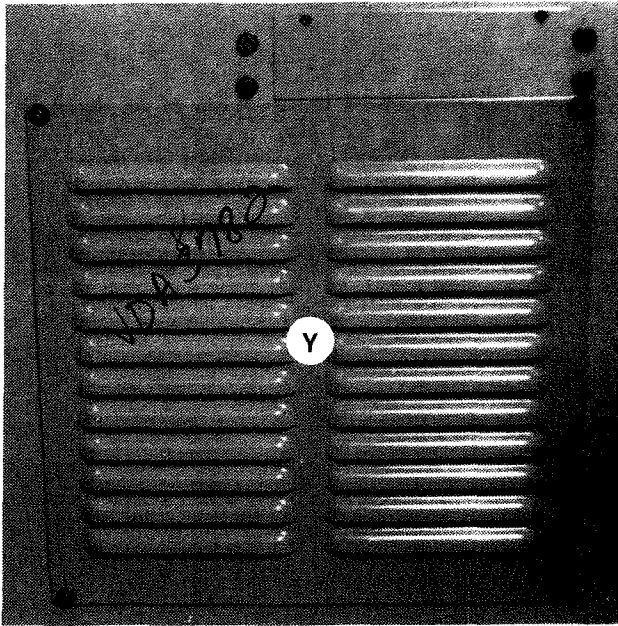

Figure 3.5 - Pedestal Rear Cover
8. Remove pedestal rear cover "Y", Figure 3.5, to prevent damage when the motor mounting plate is raised.
45. Install pedestal rear cover "Y", Figure 3.5 .